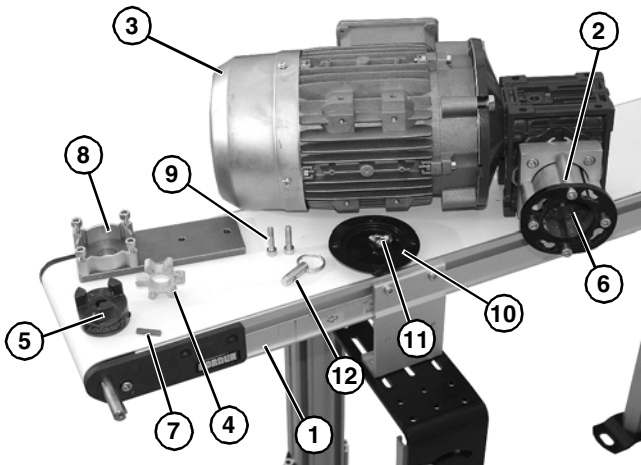

Figure 2
1. Typical components (Figure 2).